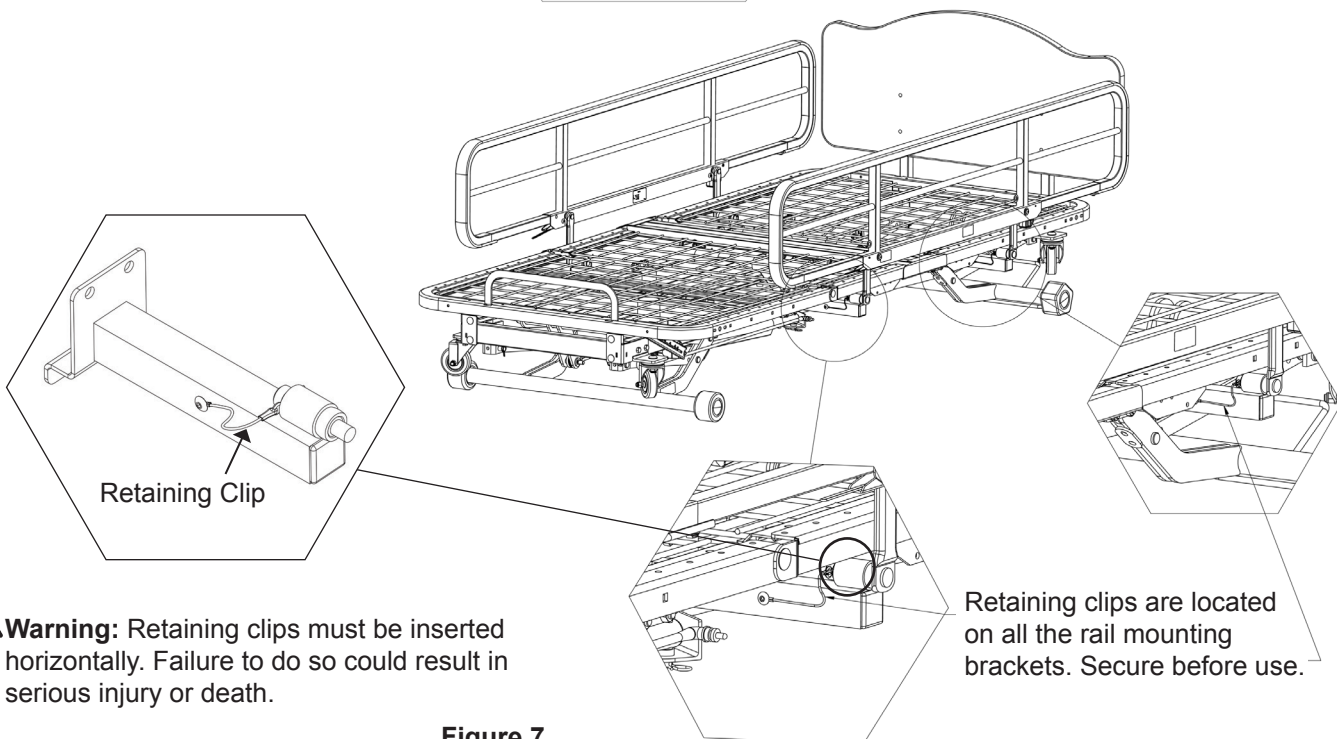

Figure 7
7. Insert the F168 rail as shown in Figure 7. Begin with the head end bracket. With assistance, line the foot end bracket up with the rail mounting stud on the foot end of the rail. Insert the rail as you did with the head end and tighten the foot end brackets to the frame rail.